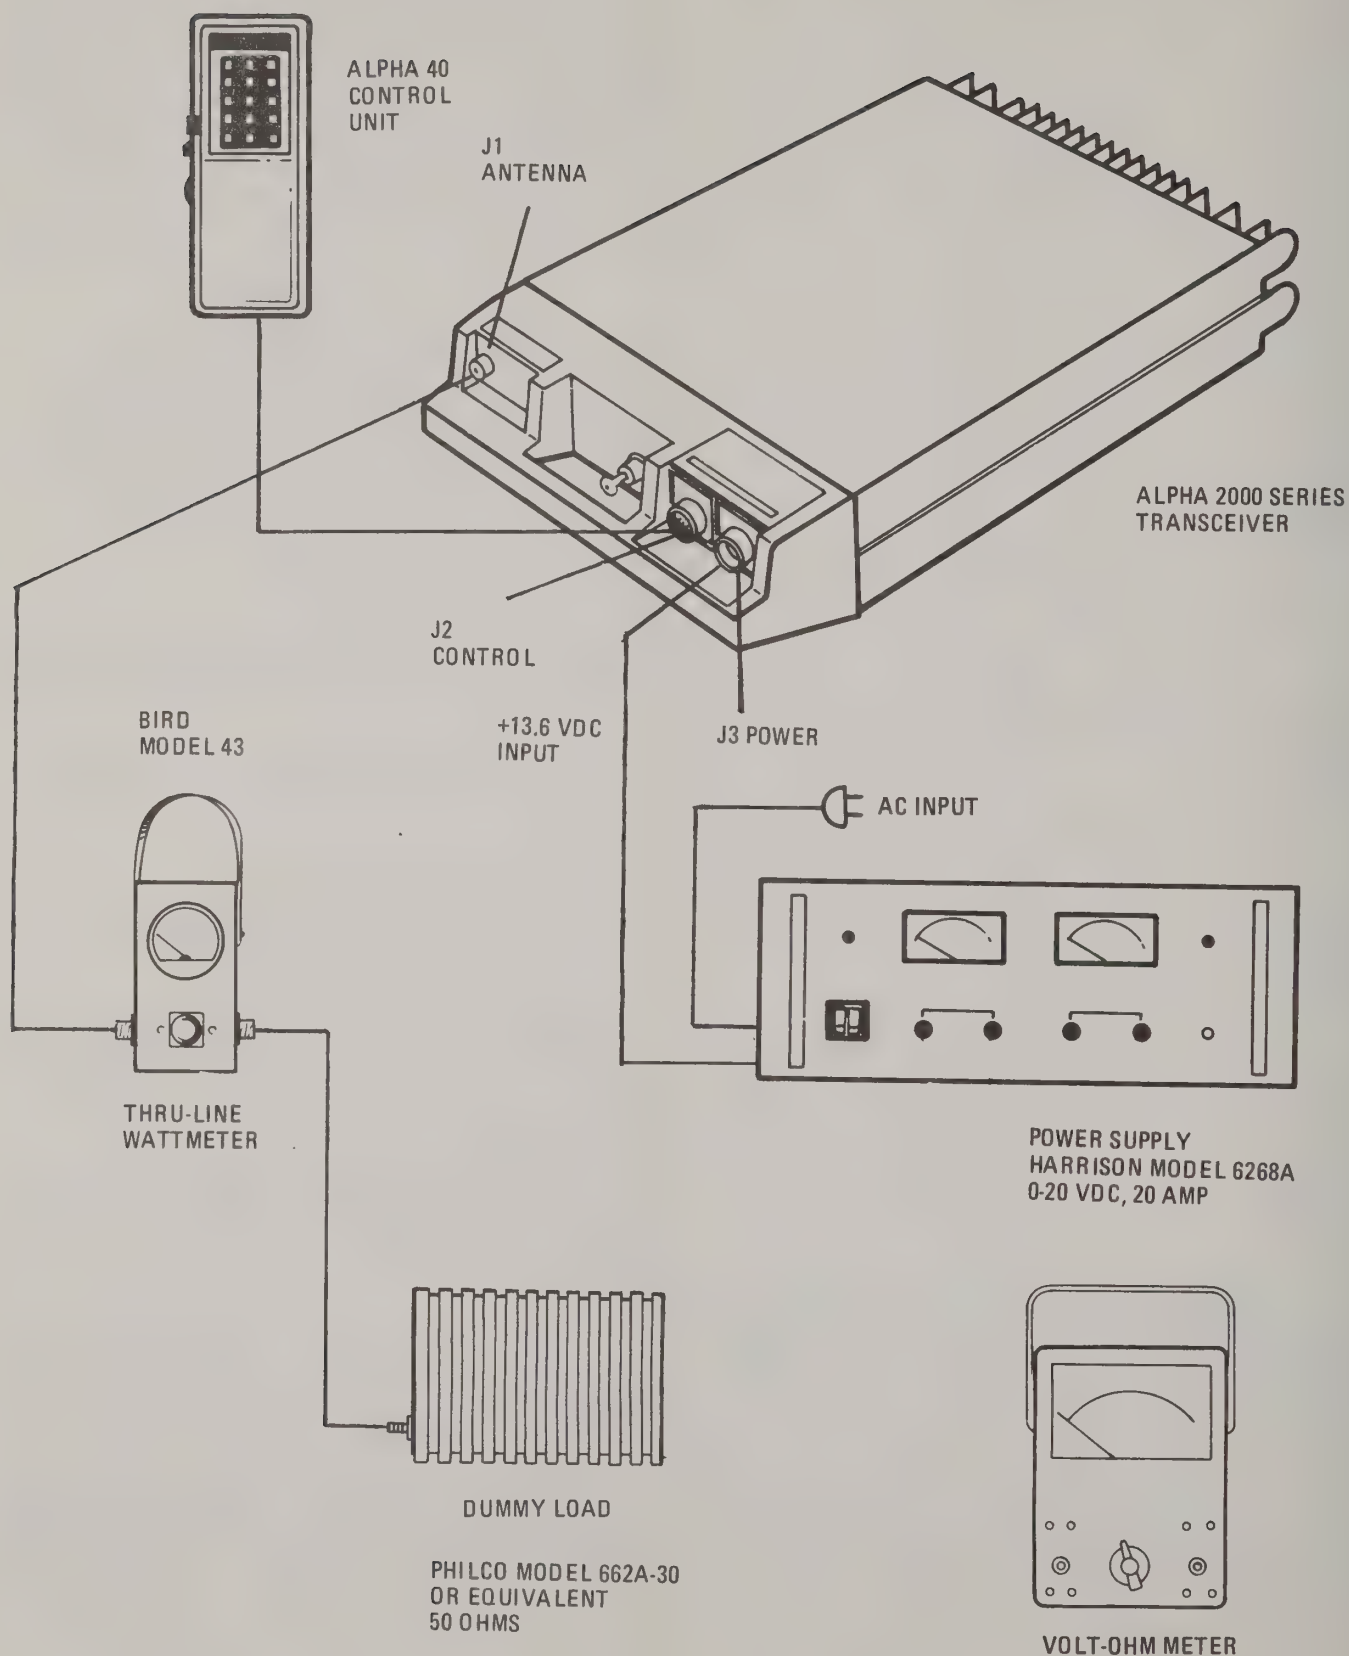

Figure 1. UHF/VHF PA Module, Test Setup
5.06 Figures 1 and 3 give related support information.